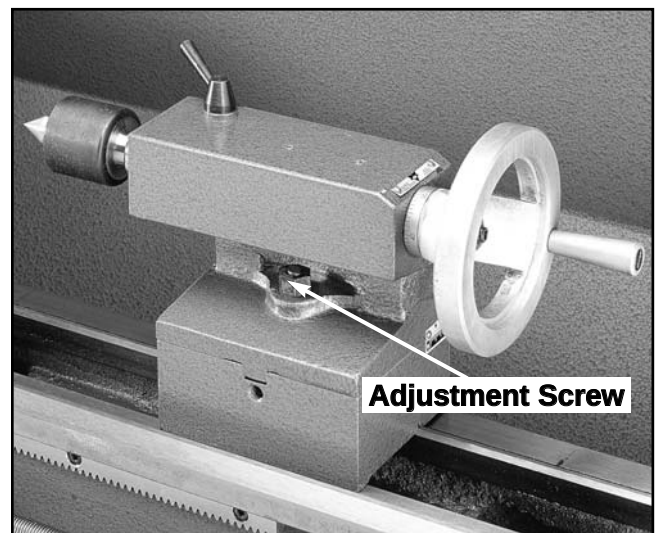

Figure 33. Tailstock offset adjustment screw.
7. Loosen the tailstock mounting bolt. Adjust the tailstock offset by the amount of the taper by turning the adjustment setscrews. **Figure 33.** Turn another .020" off the stock and check for taper. Repeat as necessary until the desired amount of accuracy is achieved.